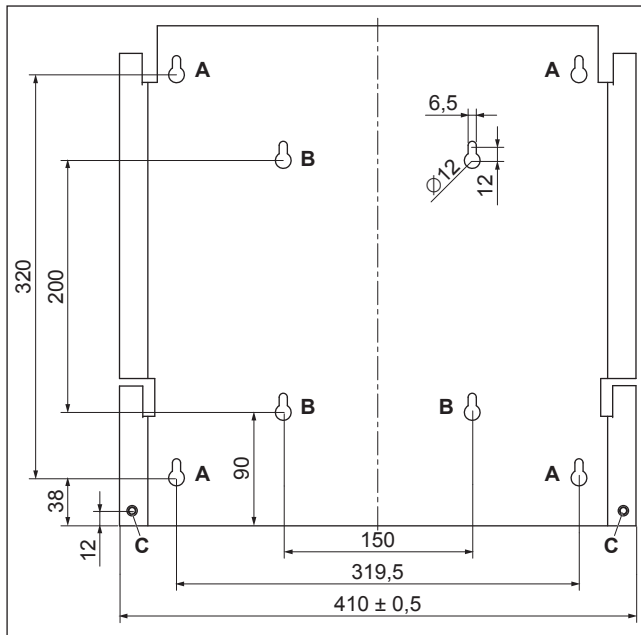

Fig. 7.4.: Dimensioned drawing of the mounting plate
1. Fasten the mounting plate to the wall using at least 4 screws ( $\varnothing$  6 mm) and appropriate dowels. Use the 4 holes **A** or the 4 holes **B** for the 4 screws (see Fig. 7.4). You can use the mounting plate as a template for marking the positions of the holes to be drilled.
4. Secure the solar power inverter to the mounting plate by fitting the washers and mounting nuts on the stud bolts and then tightening (see Fig. 7.4, item C). (The stud bolts are also used for connecting the grounding cable to the solar power inverter.)
- An additional securing washer is required to connect the ground cable to the solar power inverter (see Fig. 7.4, item C).